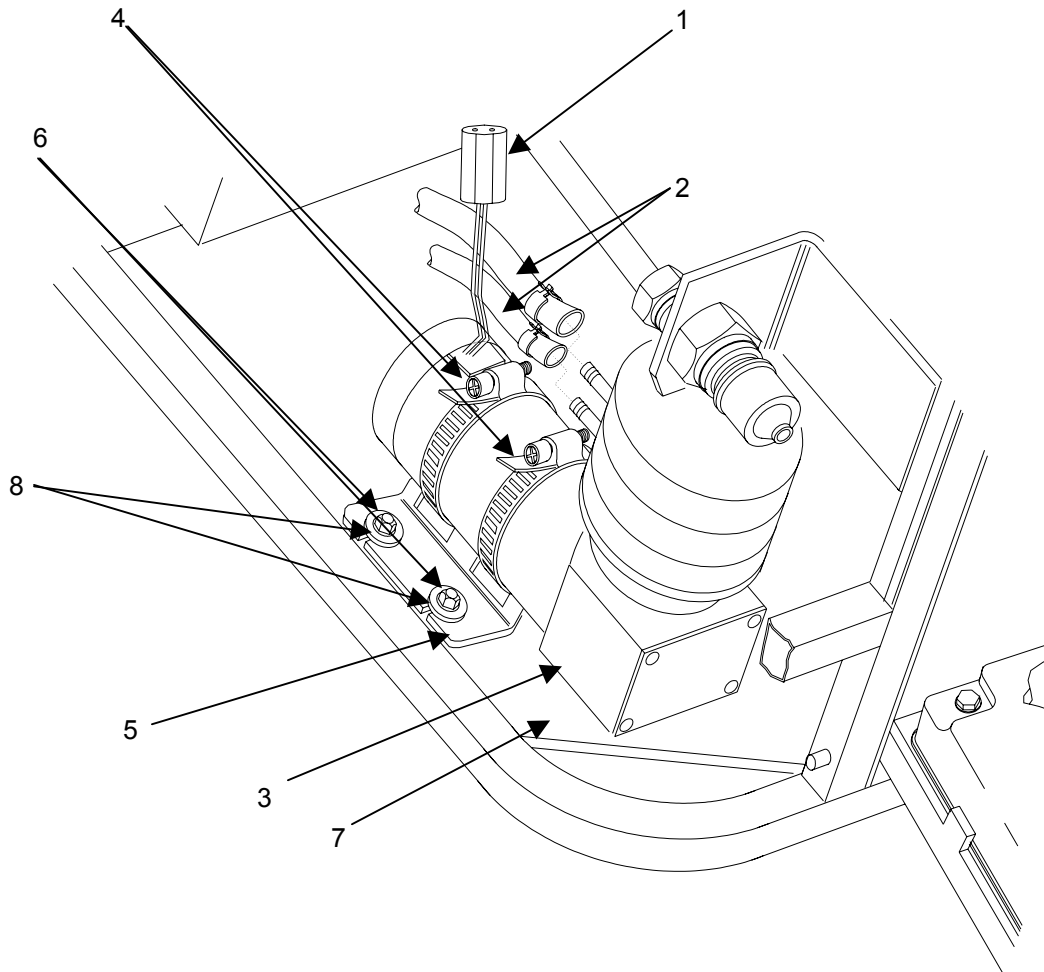

Figure 3. Replace the Compressor Assembly
2. Disconnect compressor power wire harness connector (**figure 3, item 1**).
3. Disconnect air lines (**figure 3, item 2**) from compressor (**figure 3, item 3**).
4. Loosen and remove two hose clamps (**figure 3, item 4**) and lift compressor (**figure 3, item 3**) off the mounting plate (**figure 3, item 5**).
5. To replace the compressor mounting plate (**figure 3, item 5**), remove four self locking nuts and washers (**figure 3, item 6**) securing the mounting plate to the threaded studs mounted to the MBU base plate (**figure 3, item 7**).
6. Slide new vibration grommets (**figure 3, item 8**) onto mounting plate (**figure 3, item 5**), insert spacers, and secure assembly with four self locking nuts and washers (**figure 3, item 6**) to the threaded studs mounted to the MBU base plate (**figure 3, item 7**).
7. Place new compressor onto mounting plate (**figure 3, item 5**) and secure with two hose clamps (**figure 3, item 4**). Connect air lines (**figure 3, item 2**) previously removed. Note that the $\frac{3}{8}$ -inch ID hose installs on the larger fitting.
8. Connect compressor power wire harness connector (**figure 3, item 1**).